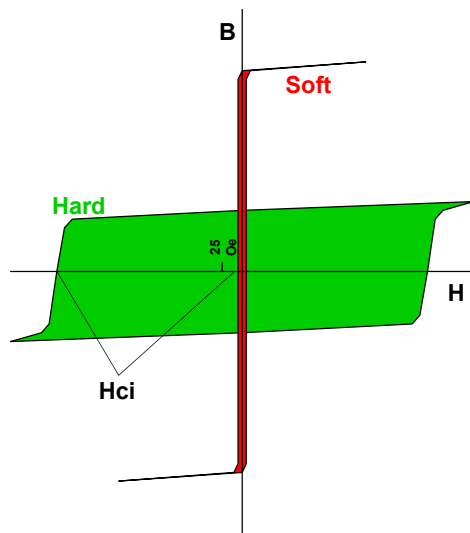
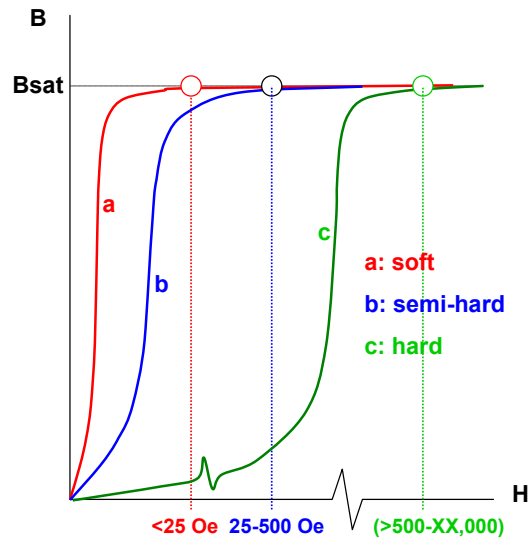

Figure 1: Hysteresis Curve
Figure 2: Magnetizing Curve
- At this point we can use the hysteresis curves (Fig 1) and the DC magnetizing curves (Fig 2) to demonstrate the difference between the soft magnetic materials and the hard magnetic materials.
- Intrinsic Coercivity (H_{ci}) is most often used to delineate between “hard” and “soft” materials. Most “soft” magnetic materials exhibit $H_{ci} < 25$ Oersted (See Fig 1), i.e., the ease with which they can be magnetized. If a small applied field suffices to produce saturation, the material is said to be magnetically soft. (See Fig 2). If a large field is required, as represented by curve “c,” the material is said to be magnetically hard. Materials having properties between “hard” and “soft” materials are occasionally referred to as “semi-hard” magnetic materials (curve “b”).
- For a hard magnetic material, the area inside the hysteresis curves (Fig 1) should be large because it represents the amount of useful magnetic energy that can be made available to do work. For soft magnetic material, it represents undesirable “core loss” and the area should be minimized.